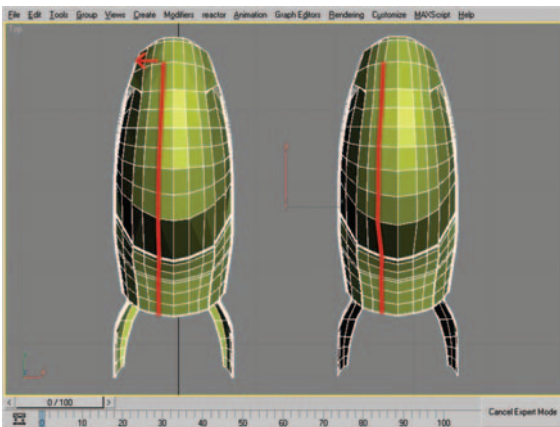

Figure 8.81 Edge selection before (left) and after moving (right).
3. Turn on Edge Constraints. At the Edge subobject level, select the edges highlighted in Figure 8.81 (left) and, using the Move tool, move them to the left a bit. Repeat the process by selecting the corresponding edges on the right side of the mesh and moving them right. Figure 8.81 (right) shows the mesh after both sides have been adjusted.